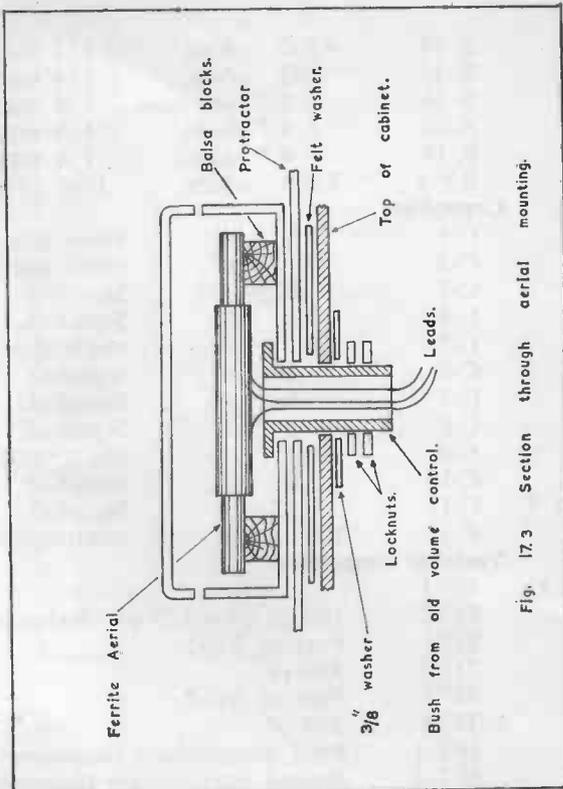

Fig. 17.3 Section through aerial mounting.
**Mounting the Aerial (see Fig. 17-3)**